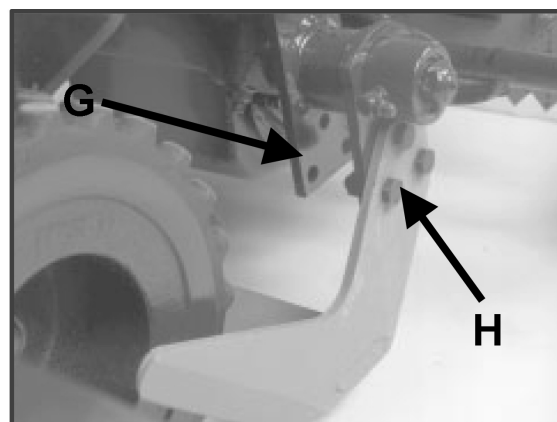

FIGURE 6
11. Attach the cutting blade **H** to the side arms **G**. Secure with six 5/16-24x1" screws, lockwashers and nuts.Torque to 25 ft.-lbs. (34N·m) (Figure 6)